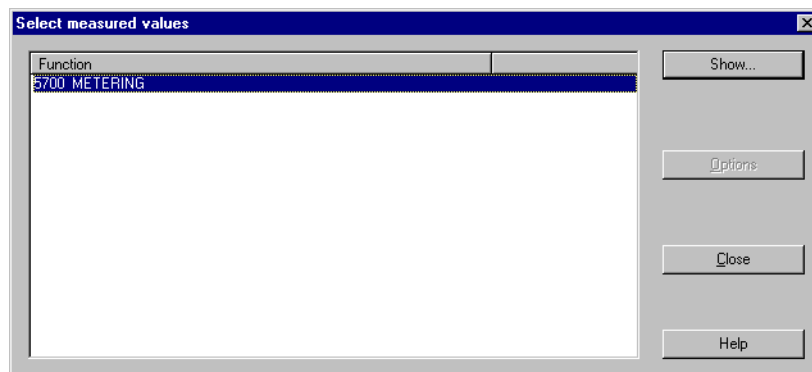

Figure 6-9 Select measured values window in DIGSI
- Double-click **Measurement** in the function selection. The Select measured values window opens (Figure 6-9, page 251).